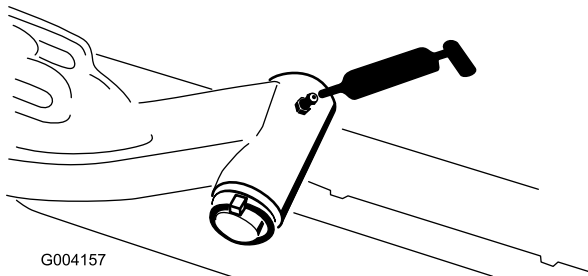

Figure 33
- Lift arm pivot shaft (1 each) (Figure 33)